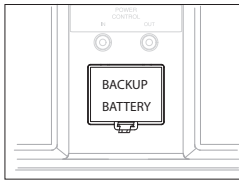

Figure 6
5. Reinstall the Backup Battery Cover. Refer to figure 6.